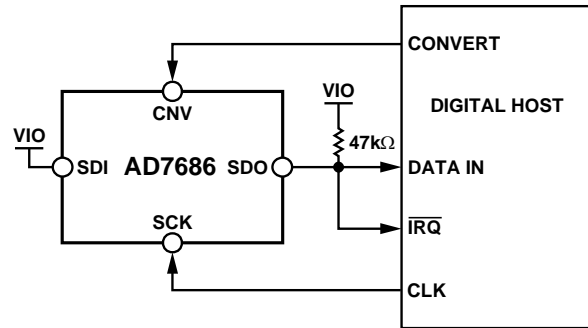
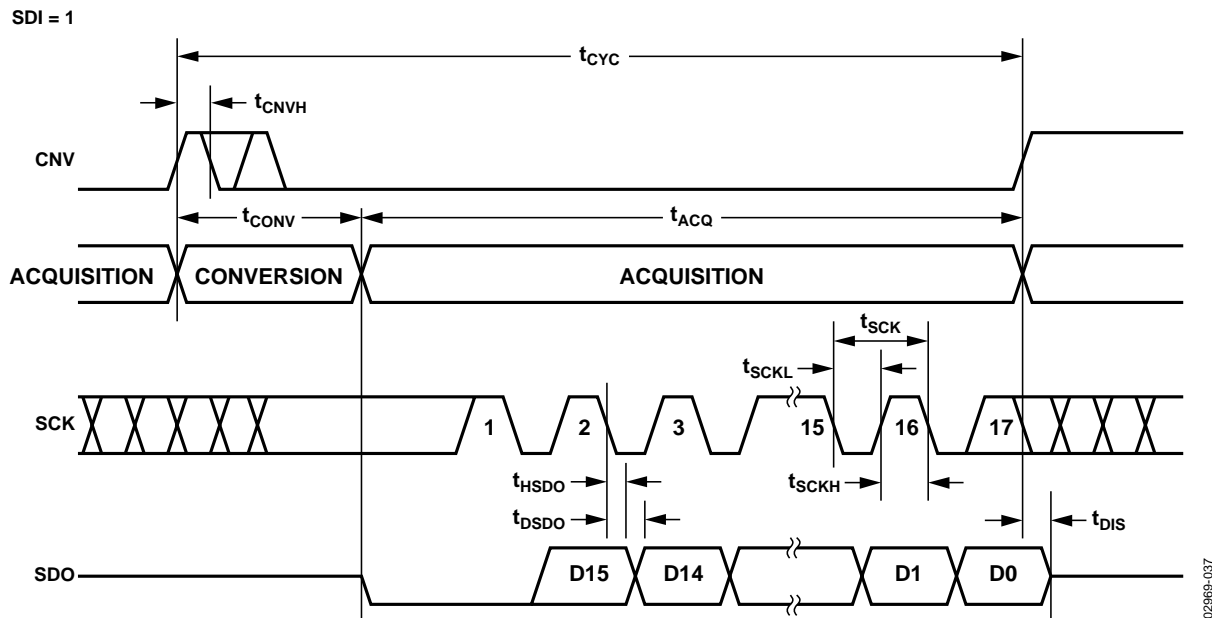
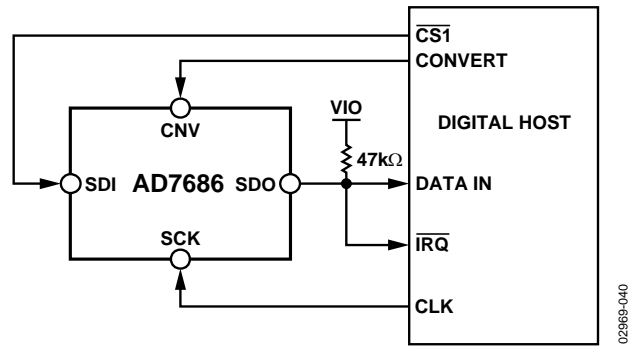
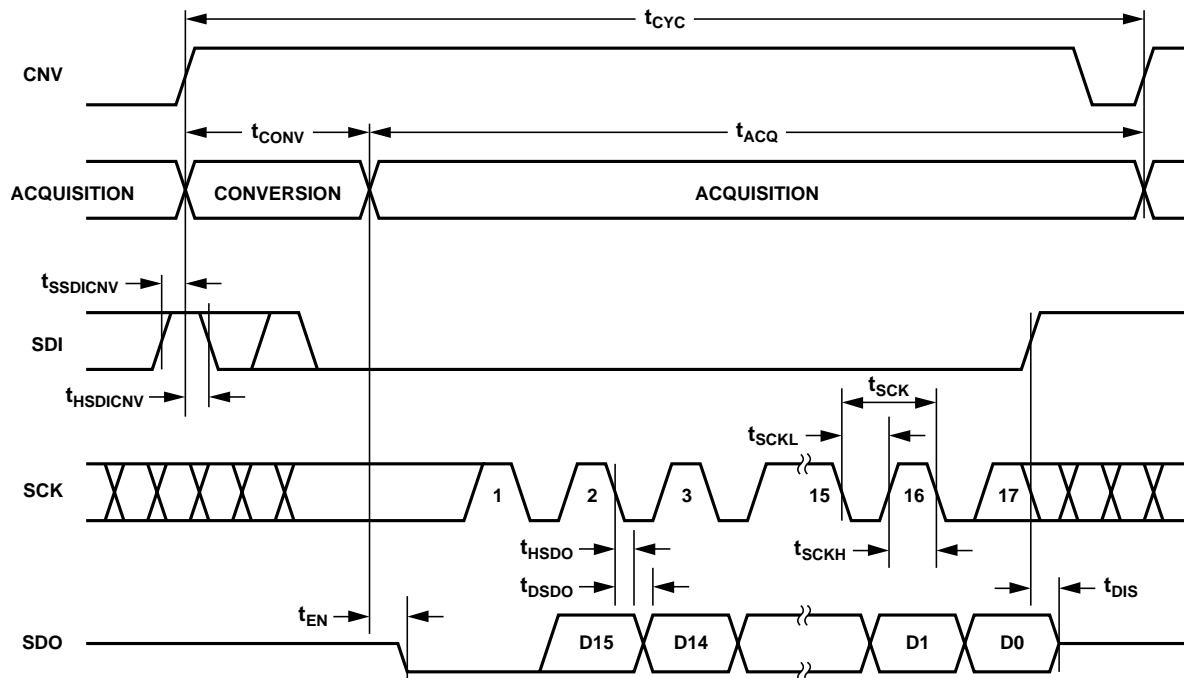

Figure 35. $\overline{\text{CS}}$ Mode 3-Wire with BUSY Indicator Connection Diagram (SDI High)
Figure 36. $\overline{\text{CS}}$ Mode 3-Wire with BUSY Indicator Serial Interface Timing (SDI High)
Figure 39. \overline{CS} Mode 4-Wire with BUSY Indicator Connection Diagram
Figure 40. \overline{CS} Mode 4-Wire with BUSY Indicator Serial Interface Timing
- In the \overline{CS} mode, if CNV or SDI is low when the ADC conversion ends (Figure 36 and Figure 40).
The connection diagram is shown in Figure 35 and the corresponding timing is given in Figure 36.
The connection diagram is shown in Figure 39 and the corresponding timing is given in Figure 40.